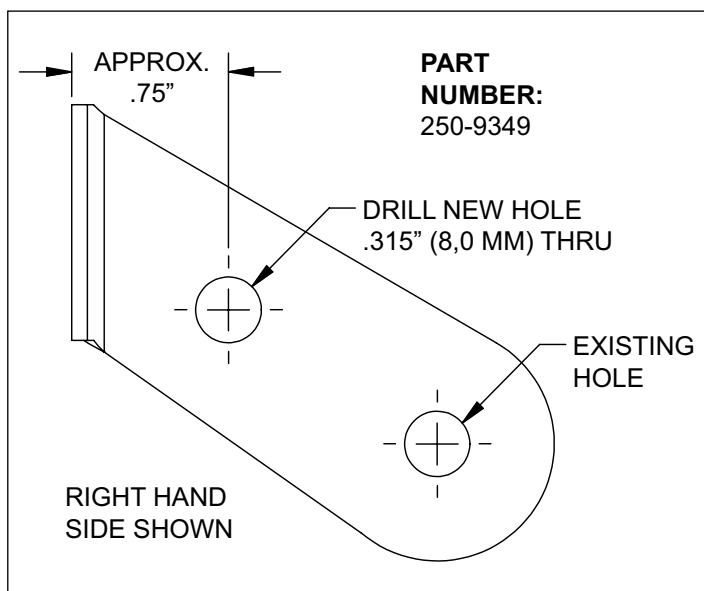

Figure 4. Bracket Modification
- NOTE:** CRZ only. A new .315" hole needs to be drilled in the hose bracket (P/N 250-9349/50) as shown in Figure 4.